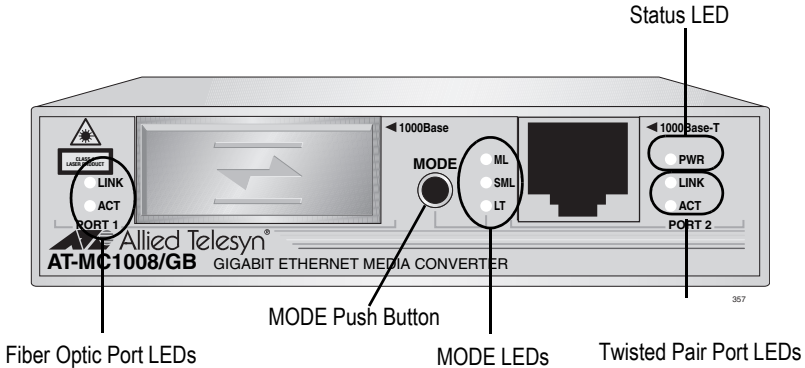

Figure 7. LEDs on the AT-MC1008 Series Converter
There are four types of LEDs on the AT-MC1008 Series converters, as shown in Figure 7:
The status LED indicates the operating status of the converter. Refer to Figure 7 for the location of this status LED. Each AT-MC1008 Series converter contains only one status LED: PWR; as defined in Table 3.
The twisted pair port LEDs indicate the operating status of the twisted pair port on the AT-MC1008 Series converter. Refer to Figure 7 on page 23 for the location of these LEDs. Each AT-MC1008 Series converter contains two twisted pair port LEDs: LINK and ACT; as defined in Table 4.
The fiber optic port LEDs indicate the operating status of the GBIC module installed in the GBIC expansion on the AT-MC1008/GB model converter, or the SFP transceiver installed in the SFP slot on the AT-MC1008/SP model converter. Refer to Figure 7 on page 23 for the location of these LEDs. Each AT-MC1008 Series converter contains a pair of fiber optic port LEDs: LINK and ACT; as defined in Table 5.
The MODE push button LEDs indicate the operating status of the three operation modes: Link Test (LT), MissingLink (ML), and Smart MissingLink (SML). Refer to Figure 7 on page 23 for the location of these LEDs. Each AT-MC1008 Series converter contains three MODE push button LEDs: ML, SML, and LT; as defined in Table 6.